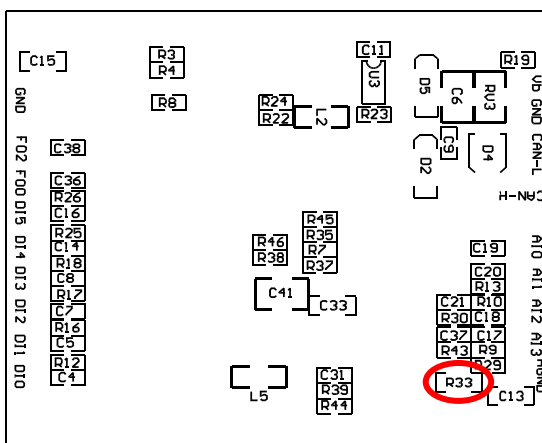

Figure 3: Position R33 (bottom side of the PCB)
2. Replace the 0-Ohm resistor on position R33 (on bottom side of the PCB, see Figure 3) with a resistor of 1.6 k Ω .